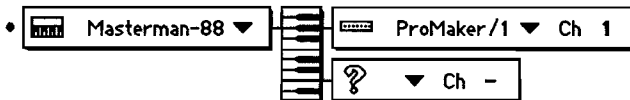

Figure 6-11: Splitter With Two Outputs
- Click the mouse and the connection looks as shown in Figure 6-11.